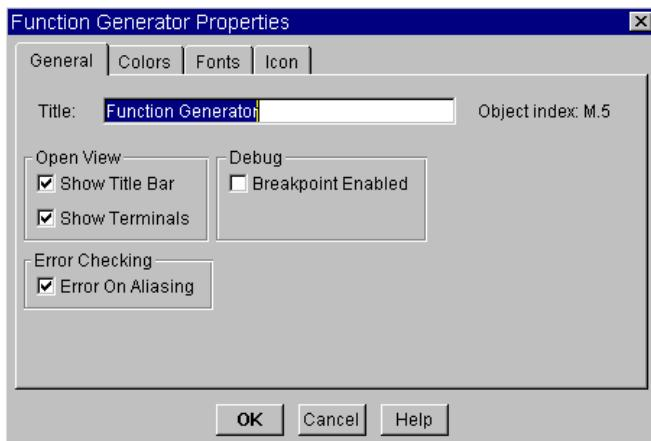

Figure 1-12. Changing the Title of an Object
1. Open the object menu and select **Properties...** A Properties dialog box appears with the current title highlighted, as shown in Figure 1-12.